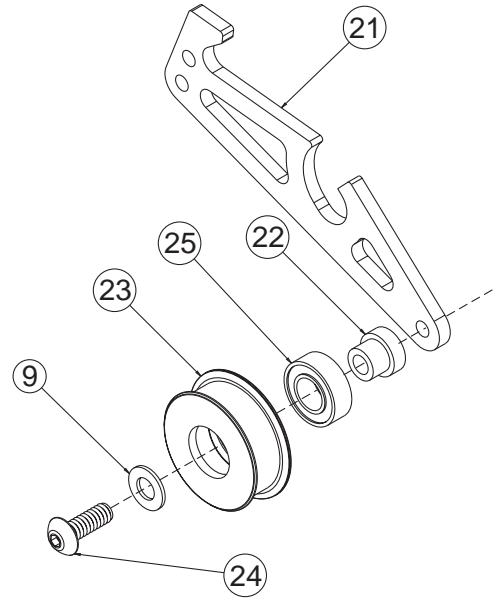

Figure 10
- ❑ 1. Snap a 3/16" x 3/8" Bearing (25) into the right side of the Idler Pulley (23). The Bearing will snap past the ridge in the Pulley and stop.
- ❑ 2. Place the Idler Pulley Shaft (22) through the Idler Pulley from the Bearing side.
- ❑ 3. Slide a #4 x .020 Washer (9) over the 4-40 x 5/16" Button Head Screw (24).
- ❑ 4. Insert the 4-40 x 5/16" Button Head Screw through the Idler Pulley Shaft and secure it to the Belt Tensioner Arm (21) as shown in Figure 10.